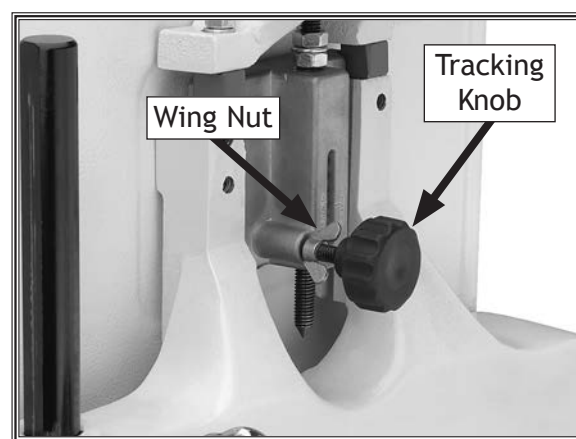

Figure 16. Tracking knob and wing nut.
7. Loosen the wing nut on the tracking knob (see **Figure 16**), then rotate the knob a small amount.